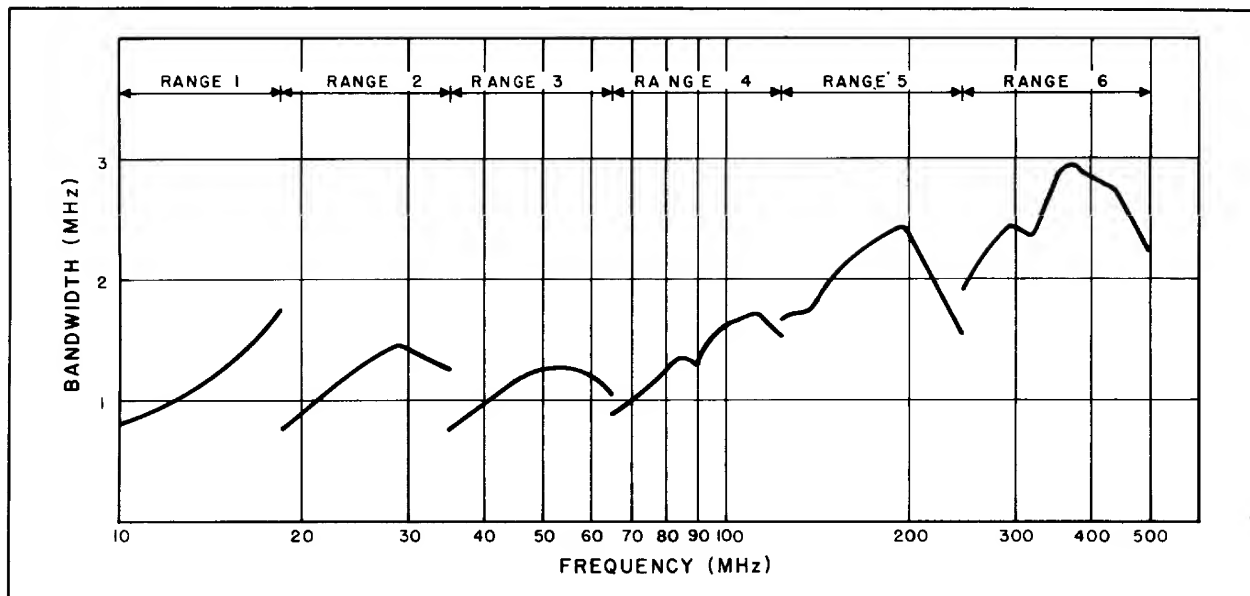

Figure 3-2. 230B Bandwidth vs Frequency
3-12 Figure 3-2 illustrates 230B typical bandwidth at the response curve 3dB points. The 230B reproduction fidelity for AM signals is dependant upon two factors; (1) the 230B bandwidth at the frequency to which it is tuned and (2) the modulating frequency of the input signal. The minimum 230B bandwidth at the response curve 3dB points is approximately 700kHz.
Using Figure 3-2, the required bandwidth may be compared with the 230B typical bandwidth at the frequency desired.